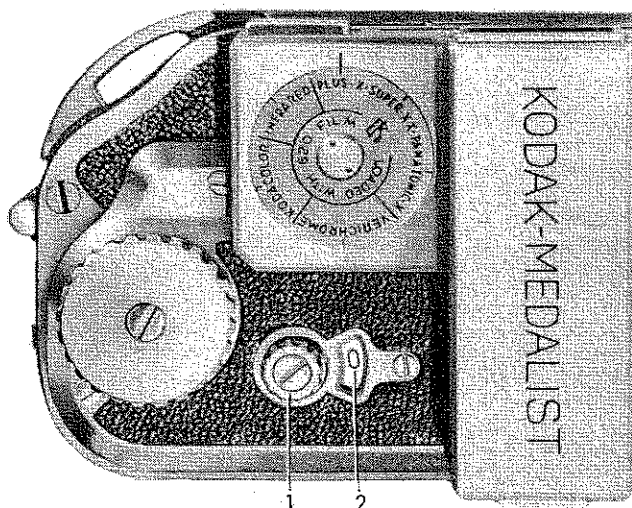

Figure 7—Counter Knob and Counter Dial
(1) Before loading the camera, look at the exposure counter dial (2, figure 7), to see if "0" is in the forward half of the window; if it is, proceed with the loading as described below. If any figure but "0" shows in the forward half of the counter window, depress and turn the counter knob (1, figure 7) until "0" appears in the forward part of the window.